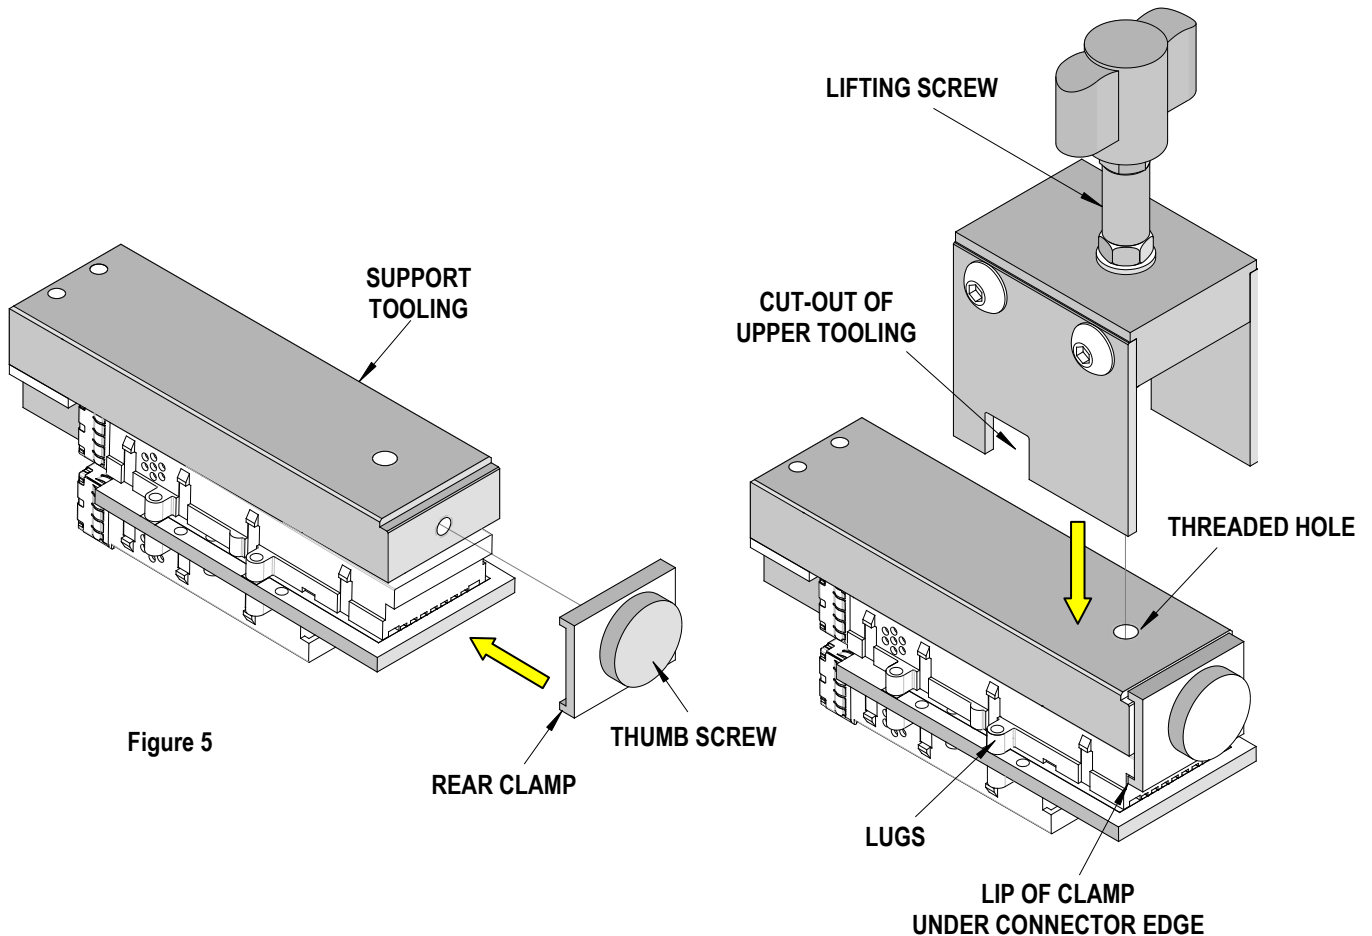

Figure 5
4. Place the rear clamp on the support tooling and tighten the thumb screw. The “lip” of the clamp must engage the edge of the connector. See Figure 5.
5. Place the upper tooling over the support tooling, so the lift screw is inline with the threaded hole in the support tooling and the cut-outs in the sides of the upper tooling clear the lugs of the connector. See Figure 5.